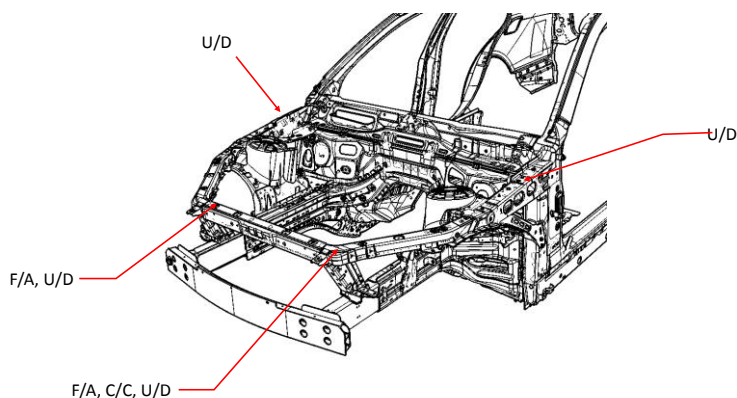

Figure 3: Fender Fixture to Body
4.3.1.3.1 Primary: Up/Down (U/D). Rests on LH/RH rails and on motor compartment tie bar (see Figure 3).
4.3.1.3.2 Secondary: Fore/Aft (F/A). Fixture pins to holes in tie bar (see Figure 3).
4.3.1.3.3 Tertiary: Cross/Car (C/C). Fixture pin to LH hole in tie bar (see Figure 3).